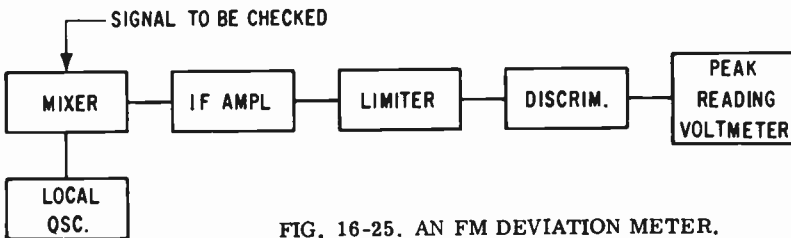

FIG. 16-25. AN FM DEVIATION METER.
**3 FM DEVIATION METER.** Every FM broadcast station must have a modulation meter to indicate its frequency deviation or percentage of modulation. Fig. 16-25 is a block diagram of an FM deviation meter. It is similar to an FM receiver. Instead of an audio section, the FM deviation meter contains a Peak Reading Voltmeter.